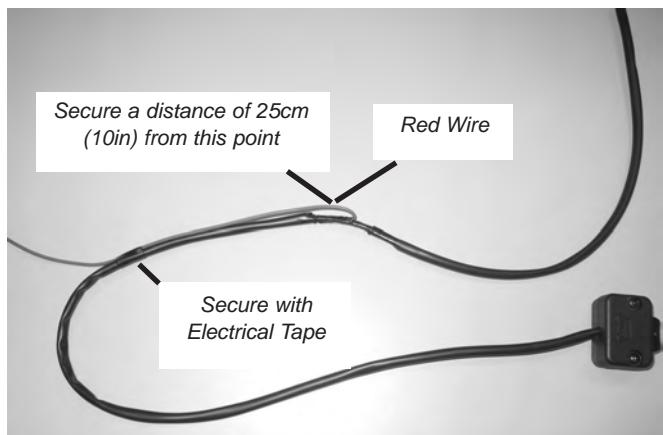

Figure 27 Red Wire - Tie-off 25cm (10in)
- a. Before installing the winch switch, route the red wire towards the switch case. Secure with electrical tape a distance of approximately 25cm (10in) from where the red wire protrudes from the back casing towards the switch case, figure 27. This will allow you to see the red wire when routing the switch wires, down the steering column, to the contactor.